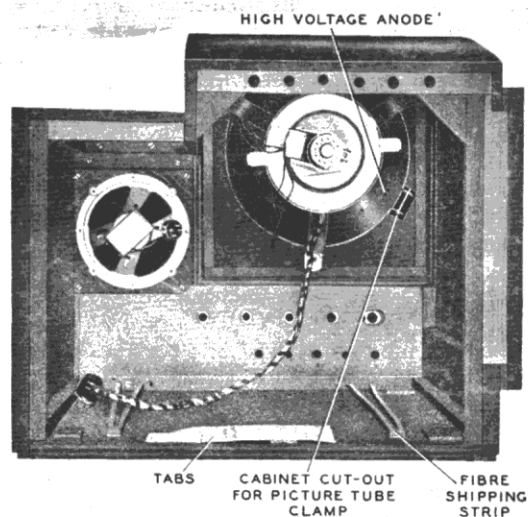

FIGURE 1. REAR VIEW, CHASSIS REMOVED
20. With the cabinet face-down on a blanket, install the tube assembly in the cabinet, positioning it so that the front clamp screw fits into the cutout in the cabinet, as shown in figure 1.